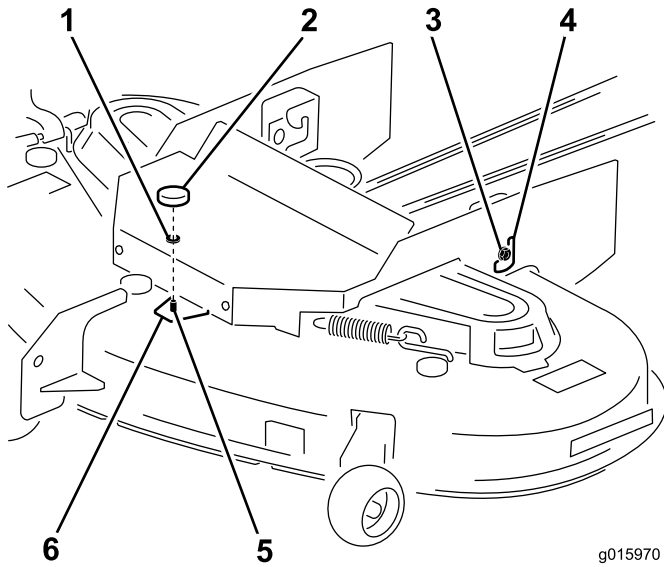

Figure 3
- A. Attach the tab at the front of the guard to the deck using the existing bolt, washer and knob that you just set aside; see Figure 3.
B. For each side of the guard, insert the previously loosened flange nut through the large opening and slide the bolt into the slot that fits best (Figure 3).